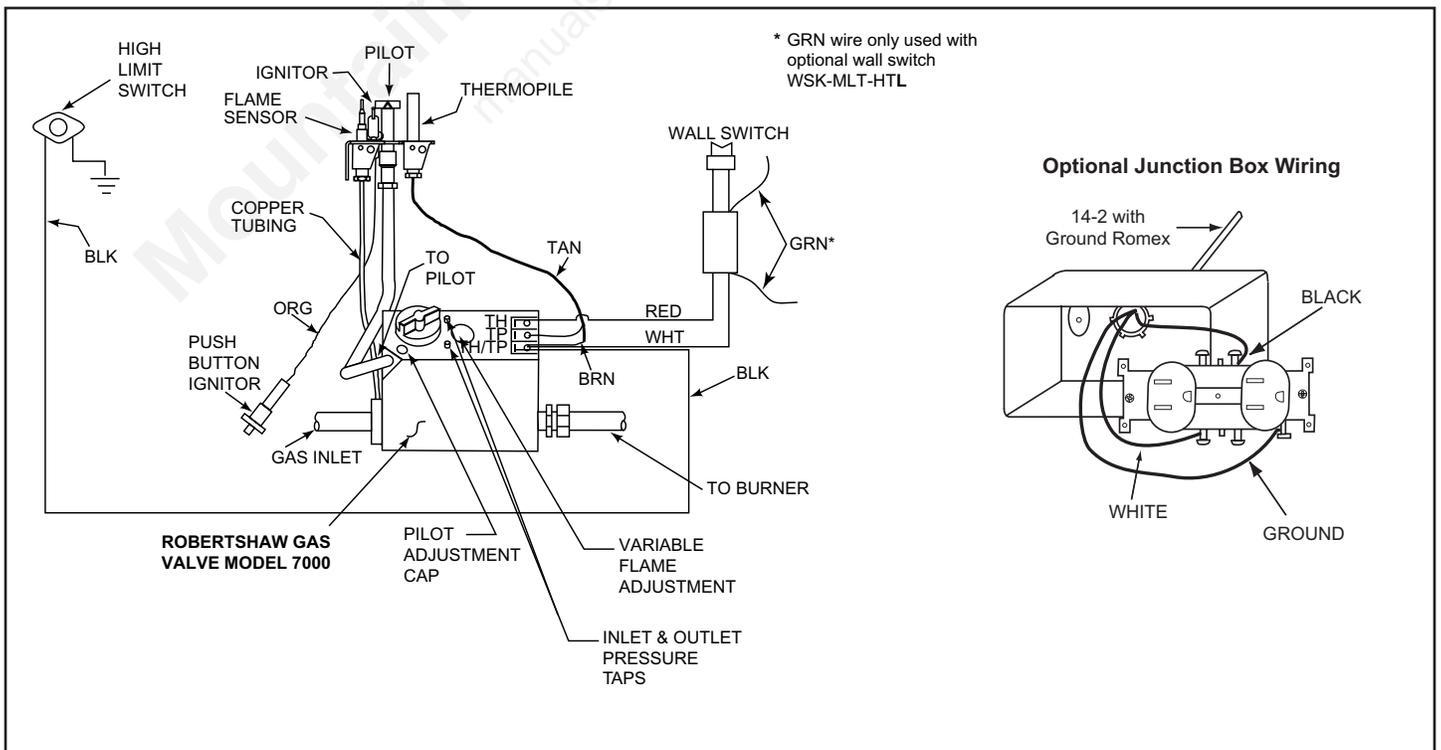

Figure 10.3 Standing Pilot Ignition Wiring Diagram
- This standing pilot ignition system wiring does not require a 110 VAC supply to operate. See Figure 10.3 for the wiring diagram.
- It is recommended that a 110 VAC junction box be installed for use with a fan or remote control. (See Figure 10.3 for junction box wiring.)